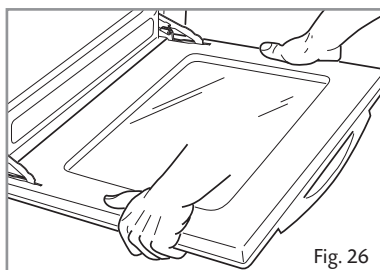

Fig. 26
- Grip the door (as indicated in figure 26) and refit it in reverse order of removing procedure.